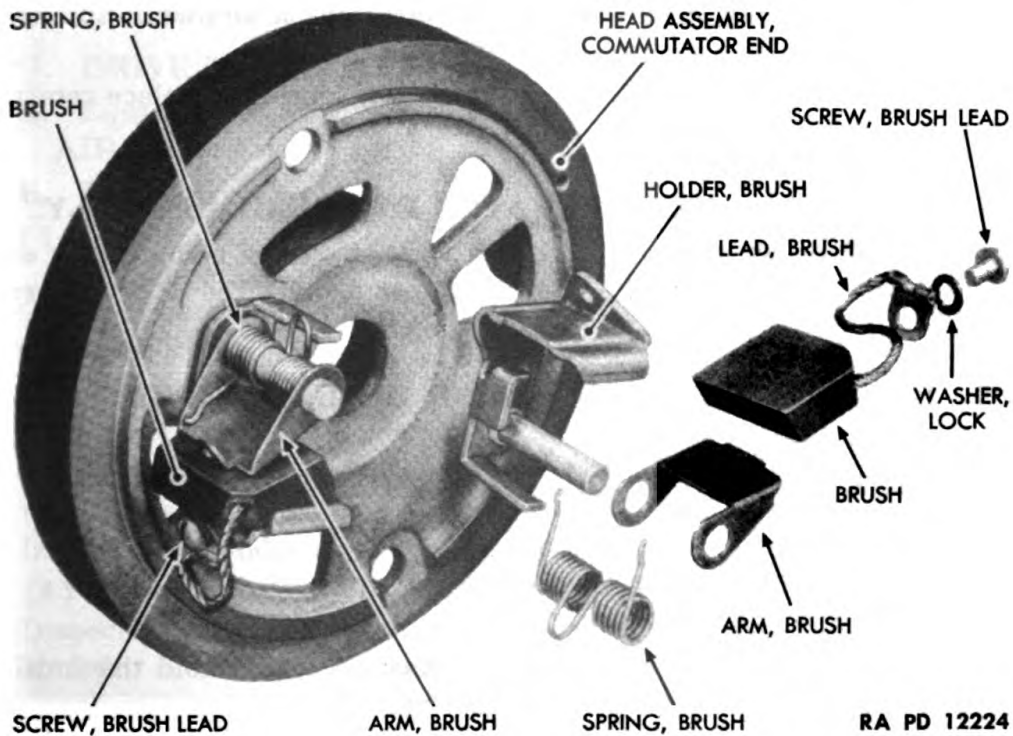

Figure 184—Commutator End Head Assembly—Brush Side
a. Slide 2 brush arms and 2 brush springs on the commutator end head so that the ends of the 2 springs rest against the 2 brush arms (fig. 184).